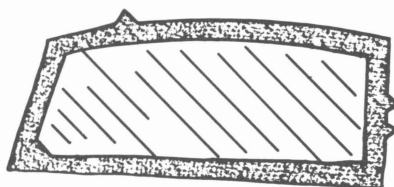

Figure 17. Trim seam allowances $\frac{1}{2}$ " (1.3 cm).
2. Fuse interfacing to the undercollar sections according to the manufacturer's directions for fusing (Figure 17). If using a woven fusible, cut interfacing on the bias. If using a nonwoven fusible, cut interfacing with stretch going around the neck.